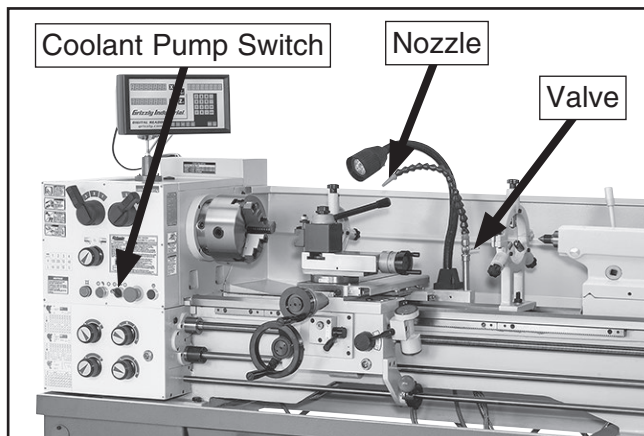

Figure 117. Coolant controls.
Use **Figures 117–118** to identify the locations of the coolant system controls and components.
3. Turn coolant pump **ON** and open valve (see **Figure 117** on **Page 68**) to pump old fluid out of reservoir. Turn pump **OFF** immediately after fluid stops flowing.